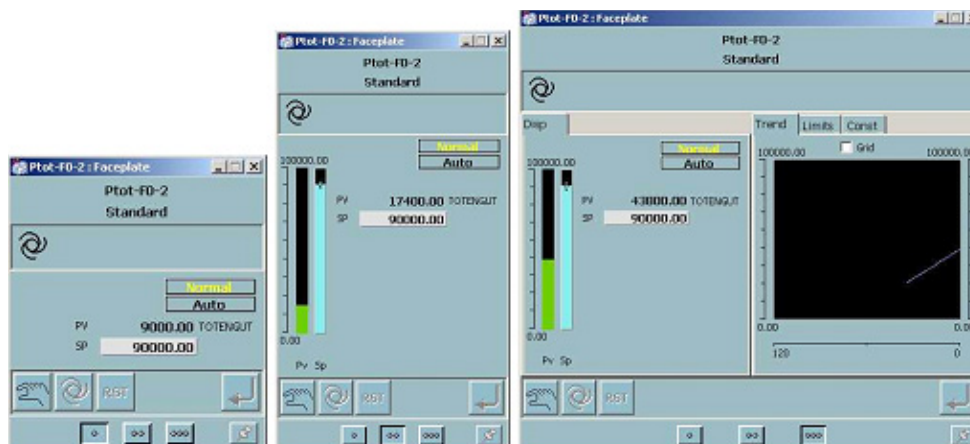

Figure 184. TOT Module
**Totalizer (TOT).** Totalizer faceplates are representations of 800xA for DCI totalizer tags. Depending on the function index, this module adds up or subtracts down an analog or pulse input value. A TOT module reports the current and setpoint value, engineering units, range, alarm status, and quality that are presented in these faceplates. Figure 184 shows the layout of the TOT reduced, normal, and extended sized faceplates and their attributes.